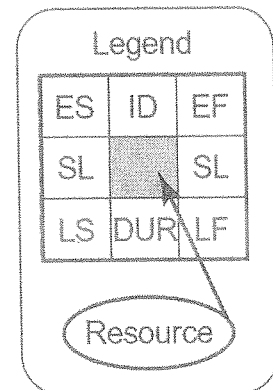

Figure Q5-1 Resource allocation problem
- Q5. a) Compute the early, late, and slack times for the network plan for a construction project shown in Figure Q5-1 and determine the project duration. **Detach the Figure Q5-1 sheet and attach it your answer script.**